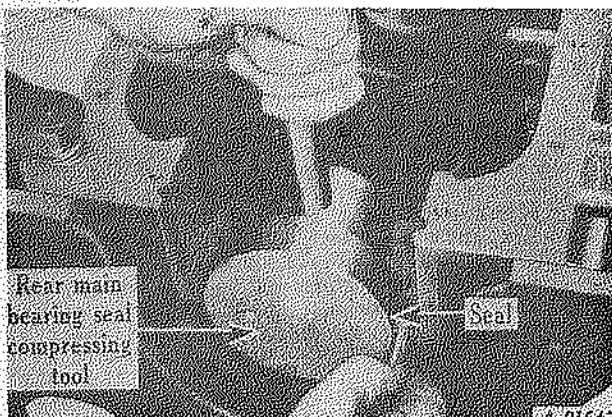
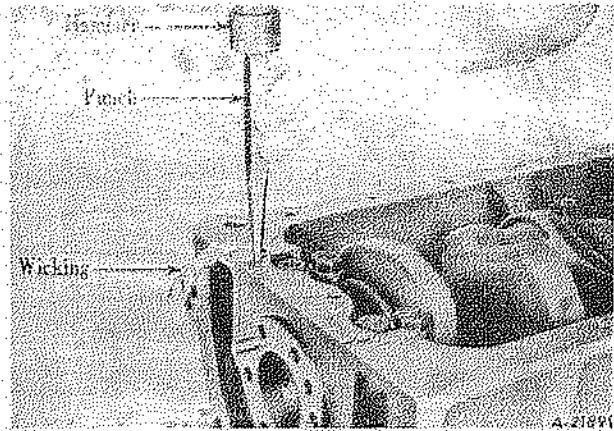

Fig. 50 - Installing upper oil seal in crankcase using a Rear Main Bearing Oil Seal Compressor
Fig. 51
5. Before installing rear main bearing cap (after all bearing clearances have been checked) install upper seal in block. Use a special tool to press or roll seal (Fig. 50) in place. After seal has been seated in block, trim ends of seal that projects above cap surface level. Repeat the same operation with main bearing cap. Install wicking on each side of rear main bearing cap (Fig. 51) Tighten all main bearing cap bolts to 80 foot-pounds: